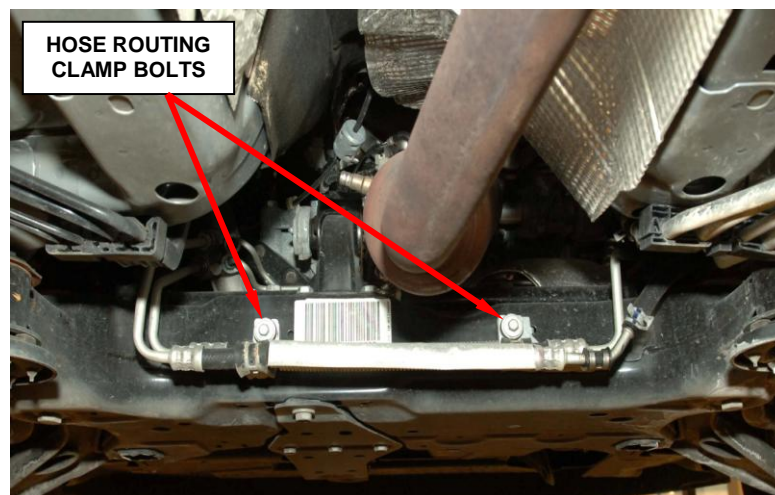

Figure 5 – Hose Routing Clamp Bolts
11. Remove the bolts securing the power steering pressure hose routing clamps to the rear of the crossmember (Figure 5).